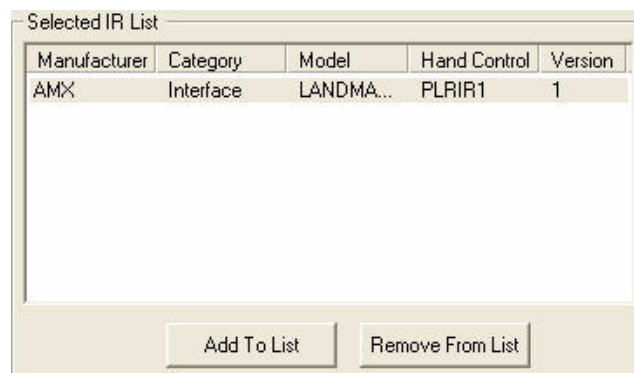

FIG. 80 Selected IR List pane
3. To add this IR file to the download list, click **Add to List** and the IR file will appear in the *Selected IR List* pane. To remove an accidentally selected IR file, highlight the file to be removed in the *Selected IR List* pane and click **Remove From List** (FIG. 80). When finished, click **OK**.